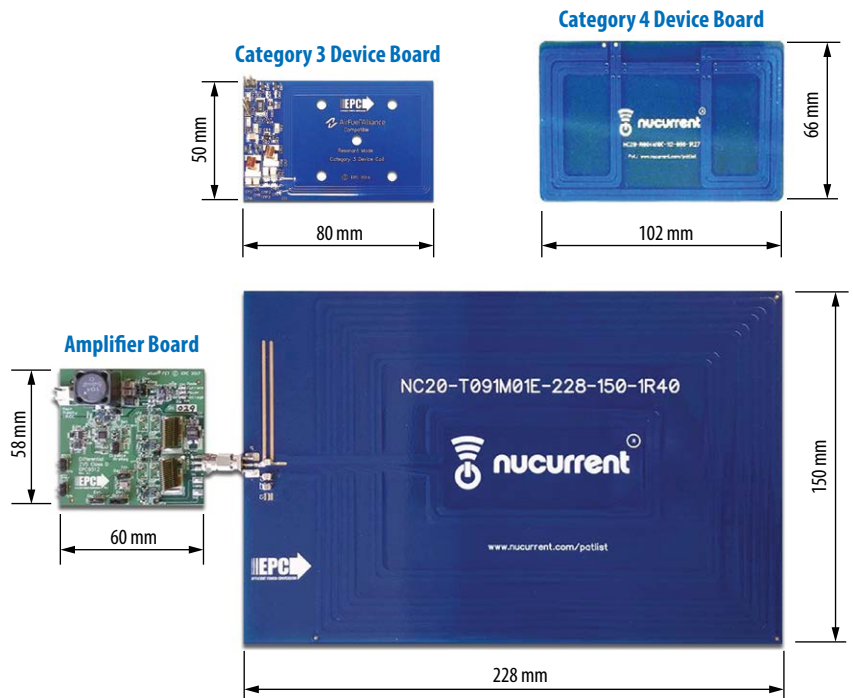
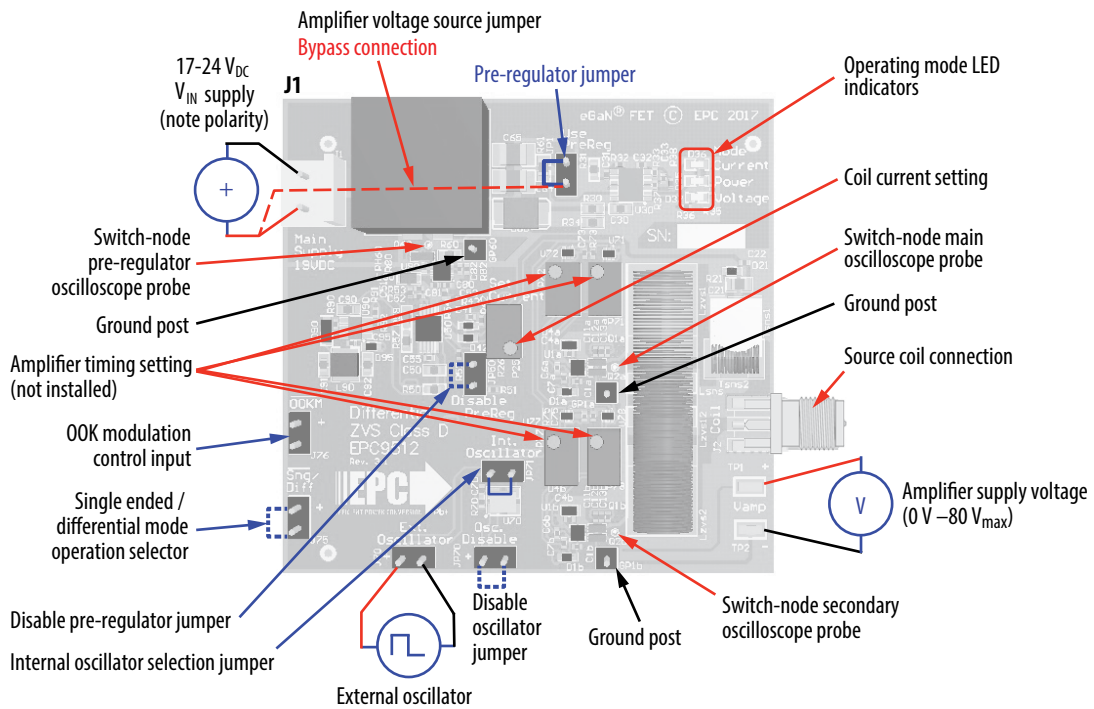

Figure 1: EPC9120 demonstration system.
Figure 7: Proper connection and measurement setup for the amplifier board.
The EPC9120 wireless power system is comprised of the four boards (shown in figure 1), namely:
The assembly of the EPC9120 Wireless Demonstration kit is simple and shown in figure 1. The source coil and amplifier have been equipped with SMA connectors. The source coil is simply connected to the amplifier.
The EPC9120 demonstration system is easy to set up and evaluate the performance of the eGaN FET in a wireless power transfer application. Refer to figure 1 to assemble the system and figures 7, 9, and 10 for proper connection and measurement setup before following the testing procedures.
2. With power off, connect the main input power supply bus to J1 as shown in figure 7. Note the polarity of the supply connector.
2. With power off, connect the main input power supply bus  $+V_{IN}$  to the bottom pin of JP1 and the ground to the ground connection J1 as shown in figure 7.